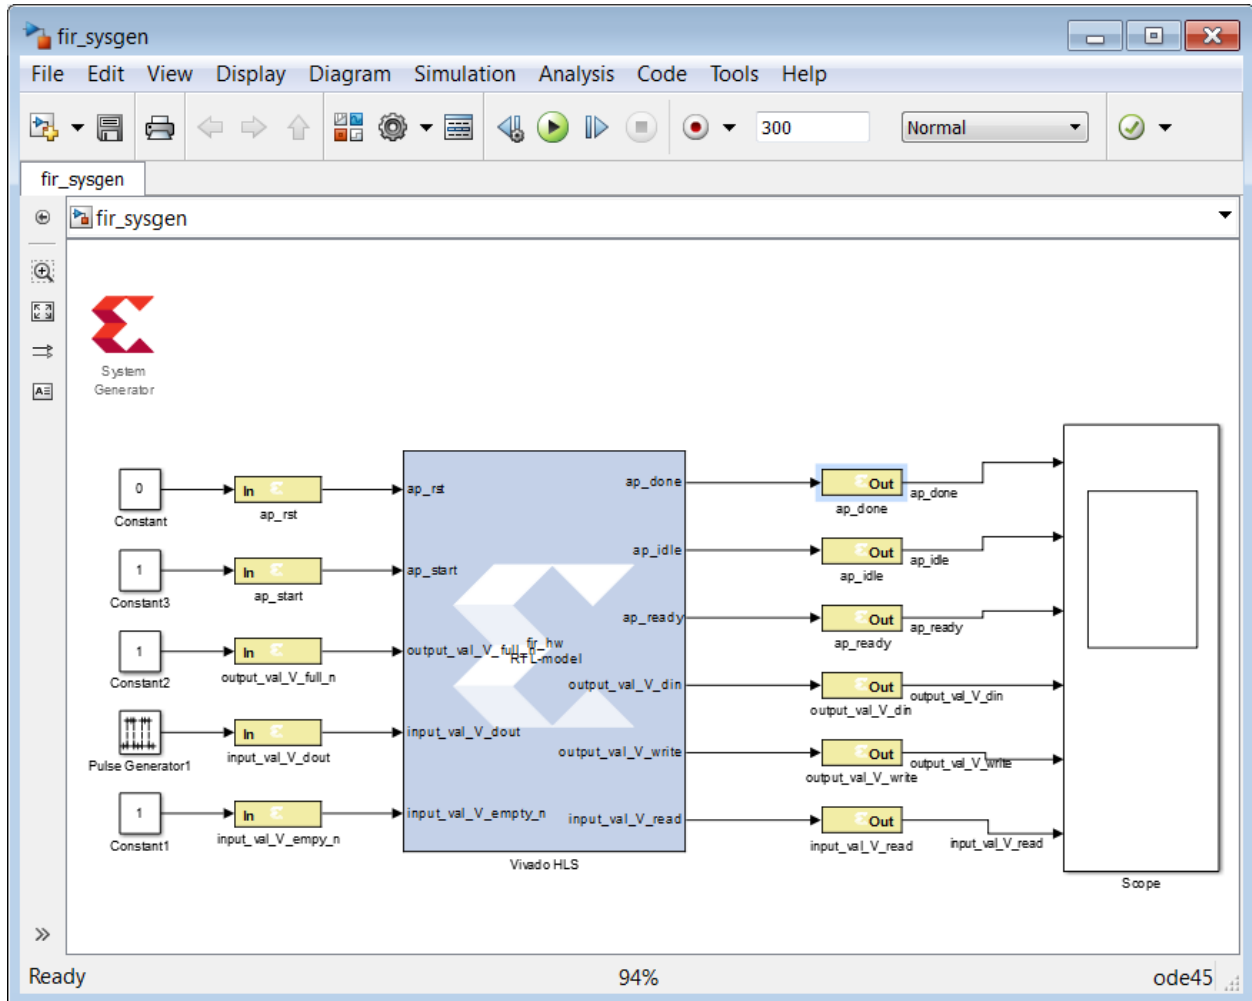

Figure 275: Design with All Connections
10. Connect the design I/O ports to the ports on the FIR IP block, as shown in 275 **Figure 275**.
11. Ensure the simulation stop time says 300 (Figure 275).